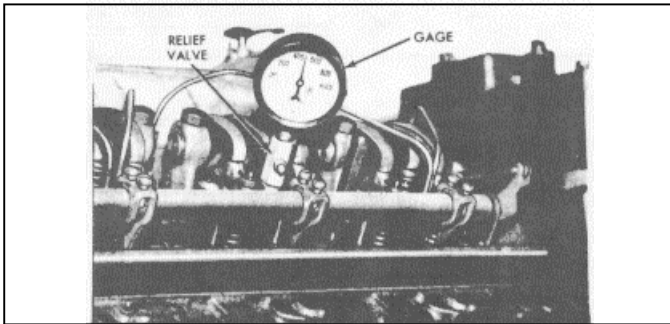

Fig. 1
- (1) Start the engine and run it at approximately one-half rated load until normal operating temperature is reached.
- (2) Stop the engine and remove the fuel pipes from the injector and fuel connectors of the No. 1 cylinder.
- (3) Remove the injector and install an adaptor and pressure gauge (Fig. 1) from Diagnosis Kit J 9531-01.
- (4) Use a spare fuel pipe to fabricate a jumper connection between the fuel inlet and return manifold connectors. This will permit fuel from the inlet manifold to flow directly to the return manifold.
- (5) Start the engine and run it at a 600 rpm. Observe and record the compression pressure indicated on the gauge. Do not crank the engine with the starting motor to obtain the compression pressure.
- (6) Perform Steps 2 through 5 on each cylinder. The compression pressure in any one cylinder at a given altitude above sea level should not be less than the minimum shown in Table 1. In addition, the variation in compression pressures between cylinders must not exceed 25 psi (172 kPa) at 600 rpm.